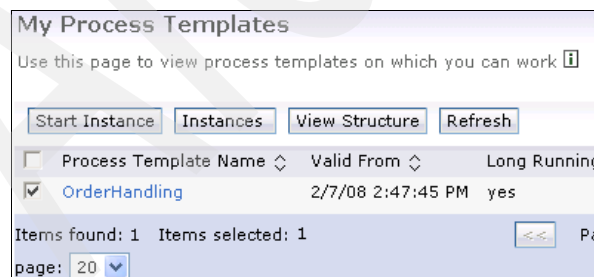

Figure 5-91 Starting an OrderHandling Process Instance
3. In the My Process Templates panel (Figure 5-91), select the **OrderHandling** check box and click **Start Instance**.